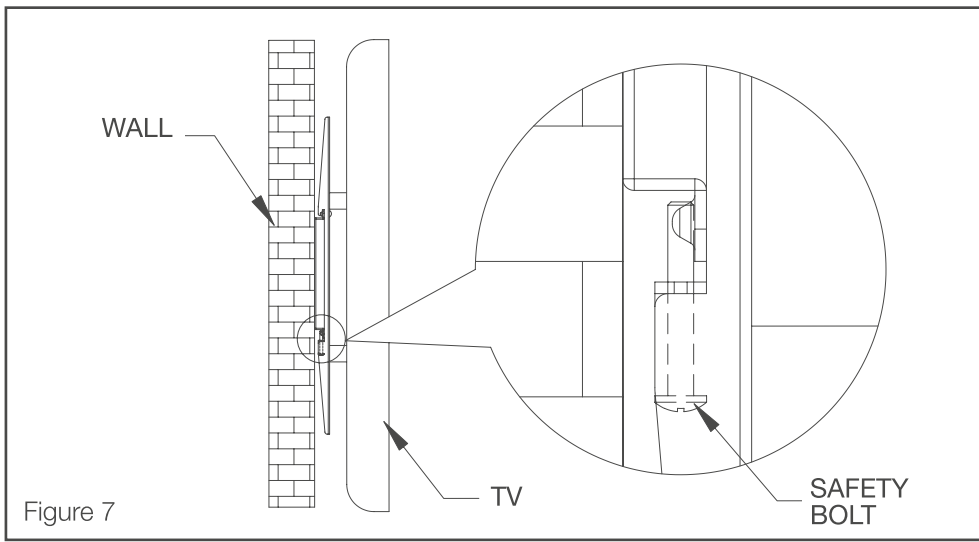

Figure 7
2. To secure your TV into position, tighten Safety bolts under the Mounting Arms to the inside of the Wall Plate (see Figure 7).